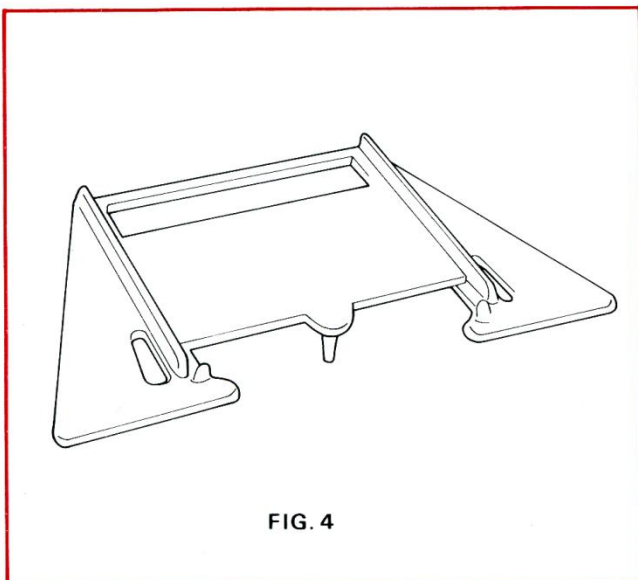

FIG. 4
**Remedy** Reconstruct the throat as shown, or, perhaps better still, fill in and streamline the voids and fix an adjustable throat restrictor of the type shown in FIG.4.